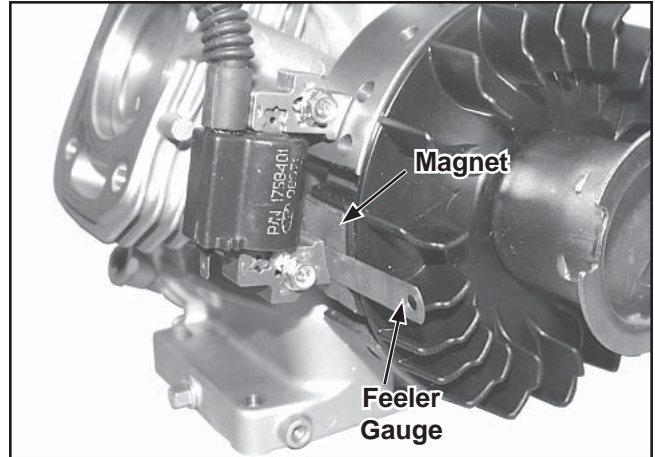

Figure 11-42. Setting Ignition Module Air Gap.
3. Rotate the flywheel until the magnet is under one leg of the ignition module. See Figure 11-42.
4. Insert a 0.254 mm (0.010 in.) flat feeler gauge between the leg of the module and the magnet. Loosen the nearest screw allowing the magnet to draw the module against the feeler gauge. Push against the module to hold the leg tight against the feeler gauge while tightening the screw. See Figure 11-42.